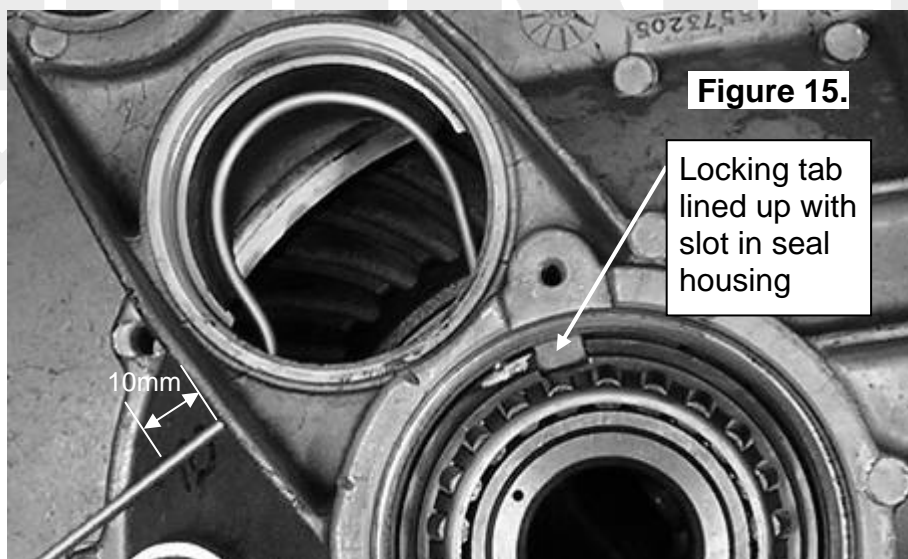

Figure 15.
- Place the pinion gear clamshell half on top while feeding the copper tube through the bulkhead port and aligning the seal housing locking tab with the slot in the seal housing. (See Fig.15.)